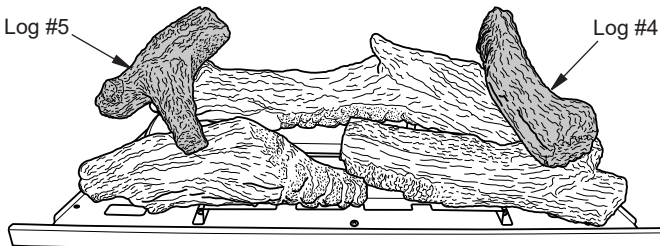

Figure 20 - Installing Logs 4 and 5
4. Install the recessed hole on the bottom of log 4 onto the pin on log 1 and place onto log 3 (see Figure 20).
5. Install the recessed hole on the bottom of log 5 onto the pin on log 1 and place onto log 2 (see Figure 20).
**IMPORTANT:** Make sure logs do not cover any burner ports (see Figure 20). It is very important to install the logs exactly as instructed. Do not modify logs. Use only logs supplied with heater.